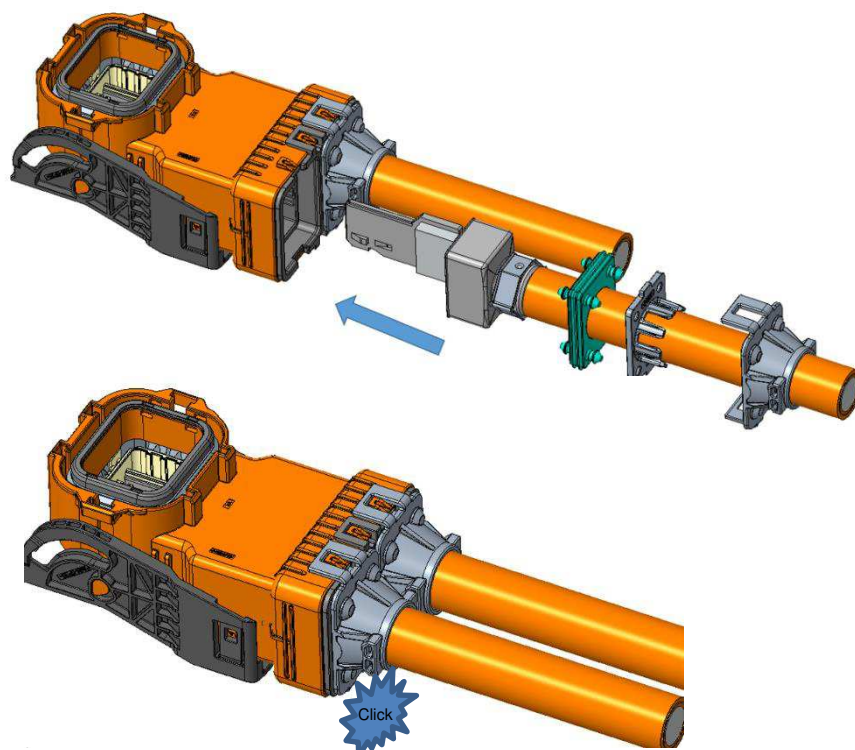

Figure 13A: Plug-Cable Assembly
12. Repeat steps 9 thru 12 for the other cable assembly (Terminal cavity 2 weld) to complete the plug-cable assembly as shown in Figure 13A.